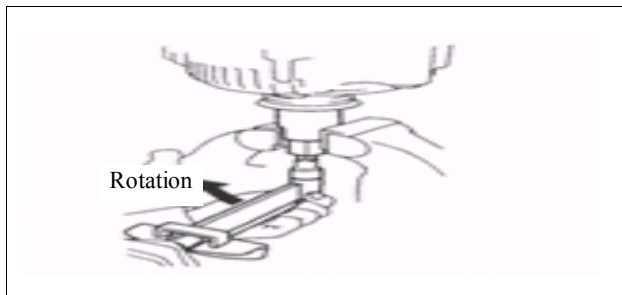

Figure 437
- Check special tool (A) which shall be fixed on the pulley shaft (see Fig. 437).